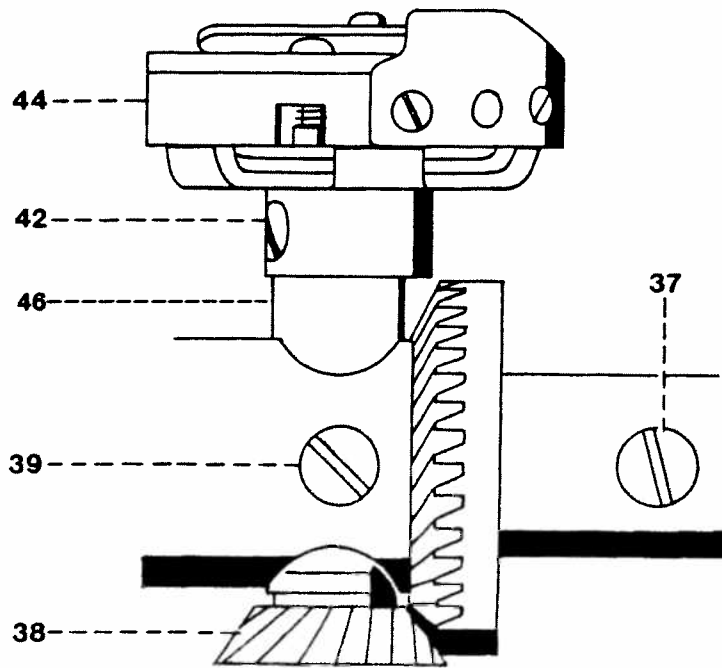

Fig. 22a
- If the hook shaft has axial play, loosen the two screws 42 (fig. 22a).